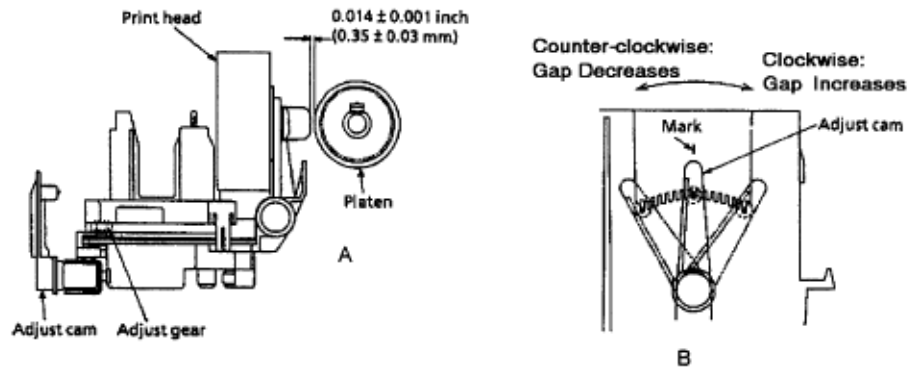

Figure 2
12. If the gap measurements are different between the left and right positions, turn the adjust cam as follows. (Figure 2 B)